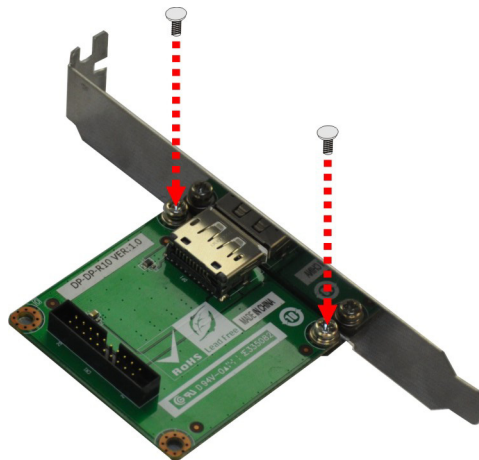

Figure 3-24: iDP Module with Bracket
Step 4: Connect the iDP module to the DisplayPort connector on the motherboard. See **Figure 3-24**.